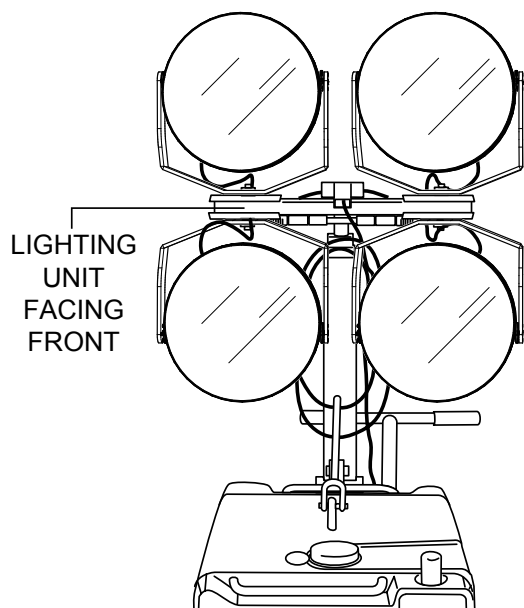

Figure 16. Lighting Unit Facing Front
2. Set the lighting units facing the front (Figure 16).